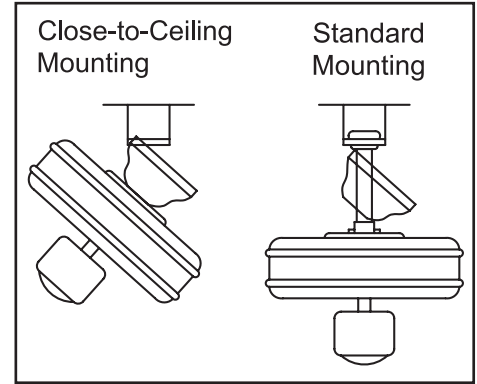

Figure 12
4. Carefully lift the assembly up to the ceiling mounting plate. If using close-to-ceiling mounting, hang the fan on the hook provided by utilizing one of the holes at the outer rim of the ceiling canopy (Figure 12). If using standard mounting, seat the hanger ball in the mounting plate socket. Make sure the tab on the mounting plate socket is properly seated in the groove in the hanger ball.
THE HOOK AS SHOWN IN FIGURE 12 IS ONLY TO BALANCE FAN WHILE ATTACHING WIRING. FAILURE TO HANG AS SHOWN IN FIGURE 12 MAY RESULT IN HOOK BREAKING, CAUSING THE FAN TO FALL. HOOK MUST PASS FROM INSIDE TO OUTSIDE OF CANOPY.